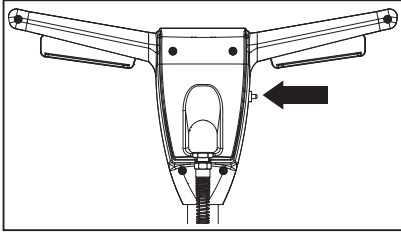
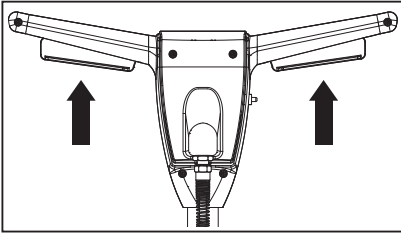

Figure 8
Figure 8A
The switch to start and stop the machine is activated by the interlock switch (Fig. 8) and the levers (Fig 8A) under the handle grips.
3. Push the interlock switch (Fig. 8), and apply pressure to the levers (Fig. 8A).